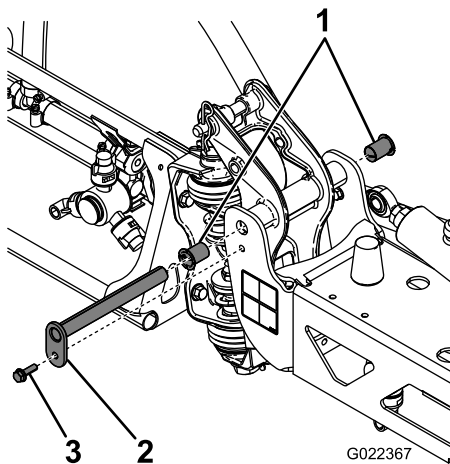

Figure 57
3. With the weight of the boom supported, remove the bolt and nut securing the pivot pin to the boom assembly (Figure 57).
4. Remove the bolt and nut that secure the pivot pin, and remove the pin (Figure 57).
6. Remove and inspect the nylon bushings from the front and back sides of the pivot bracket (Figure 57).
7. Place a small amount of oil on the nylon bushings, and install them into pivot bracket (Figure 57).
8. Install the boom and pivot bracket assembly into the center frame, aligning the holes (Figure 57).